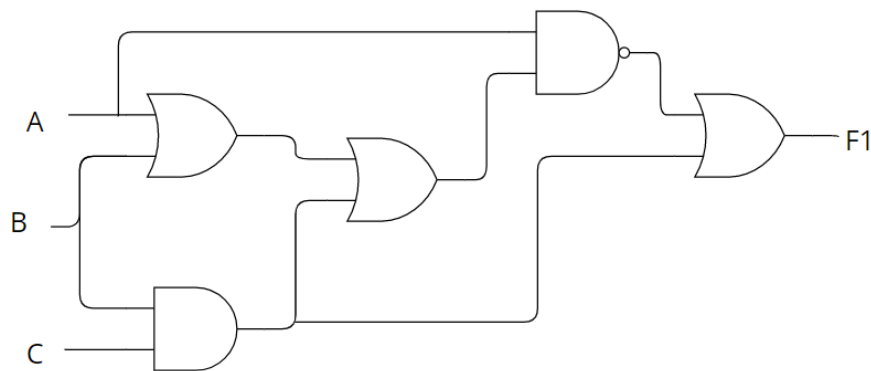

Figure 4.4: Circuit 2 using basic gates.
- b) Implement the following circuit in Figure 4.4 using basic gates and fill the truth table (Table 4.2).